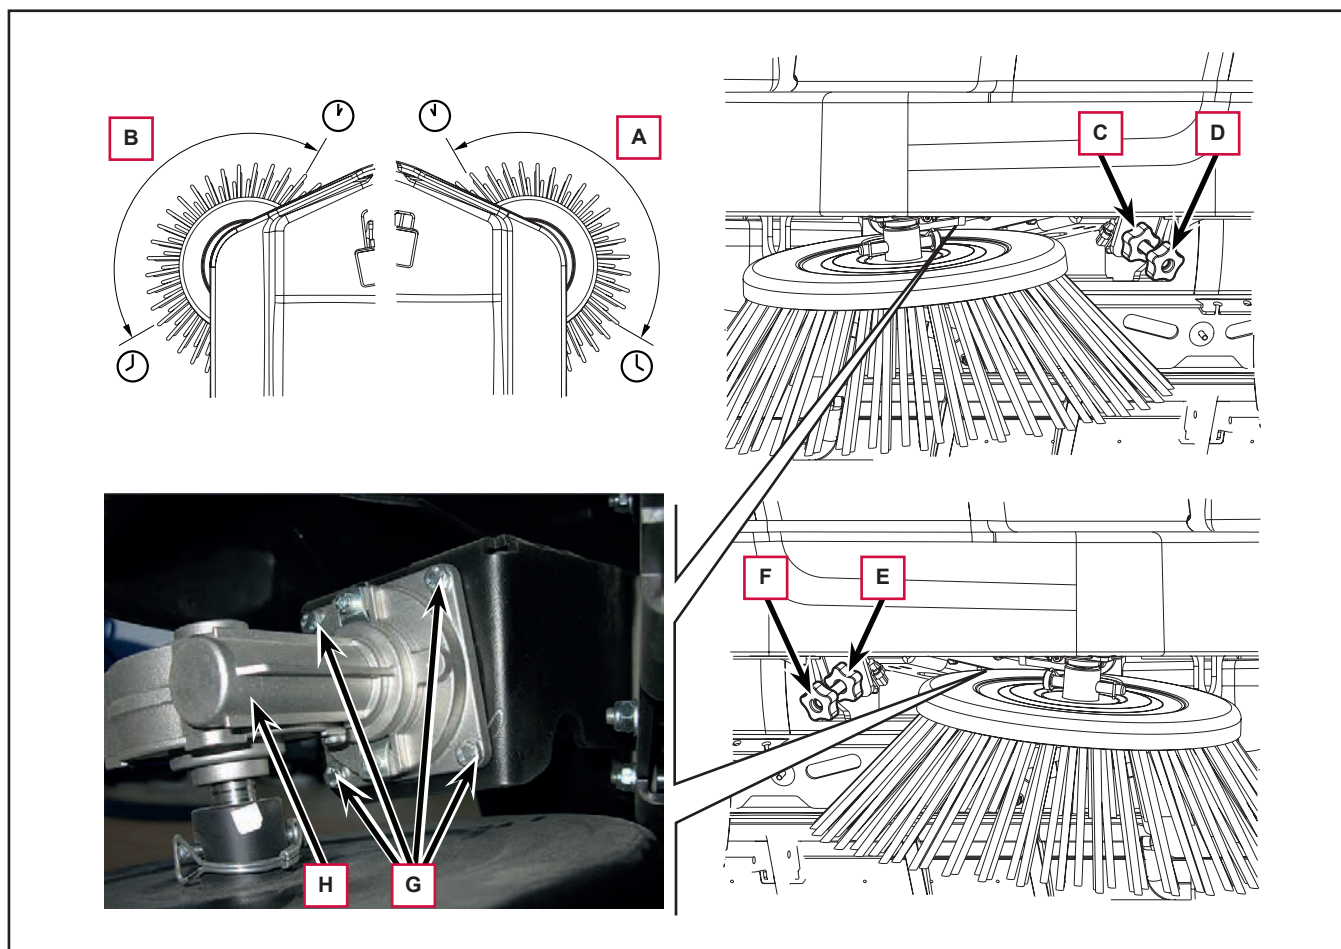

Figure 4
- For the right side broom, regulate by loosening the ring nut (C, Figure 4) and by adjusting the adjuster (D) until the correct print (A) is achieved. Finally lock the adjuster (D) into position with the ring nut (C).